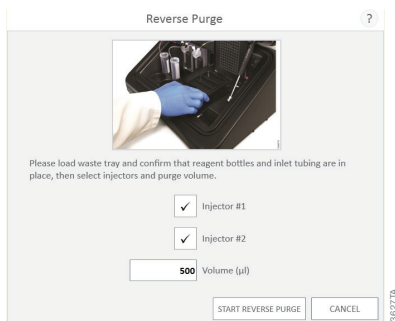

Figure 91. Reverse Purge function.
3. Tap the **Start Reverse Purge** button (Figure 91).